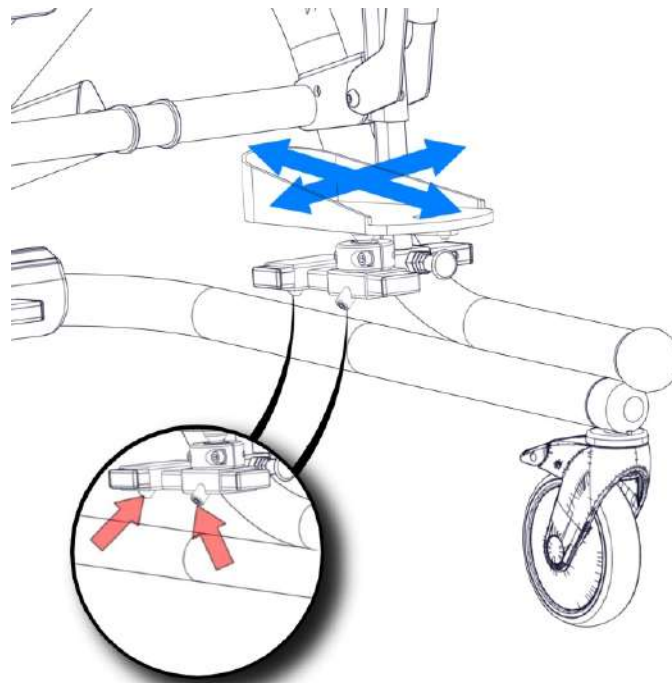

Fig. 27
The adjustment forward back and side-to-side can be done by loosening the screws marked with red pointers on the (Fig. 27), by using the Allen key 4mm. After the adjustment is done, the screws should be tightened back.